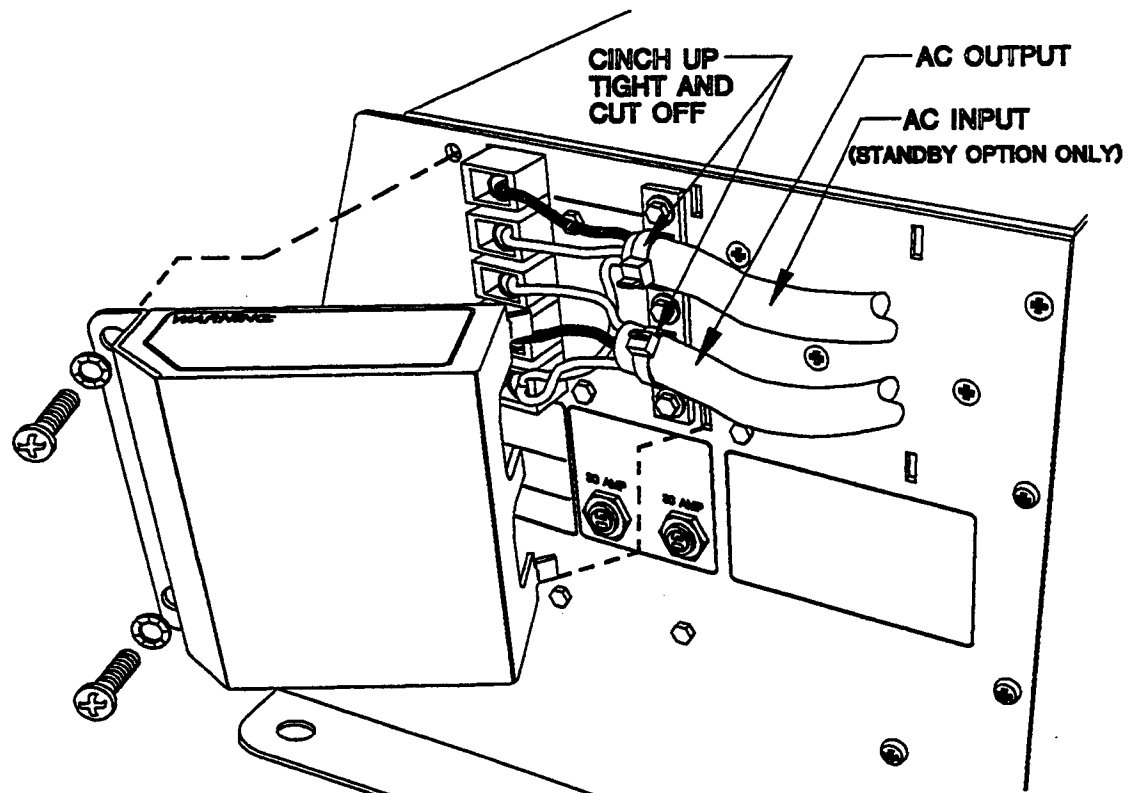

Figure 5, Hardwire Terminal
**Disconnect the inverter from the battery. Feed the wires thru the wire ties on the side of the inverter. See Figure 5. Following the wiring guide on the side of**